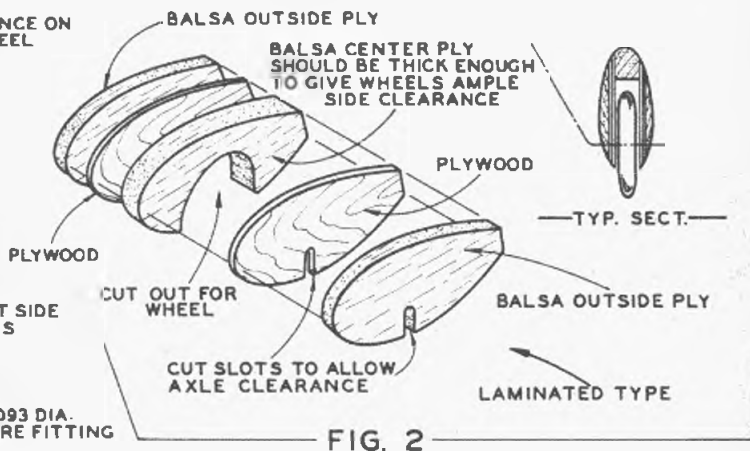
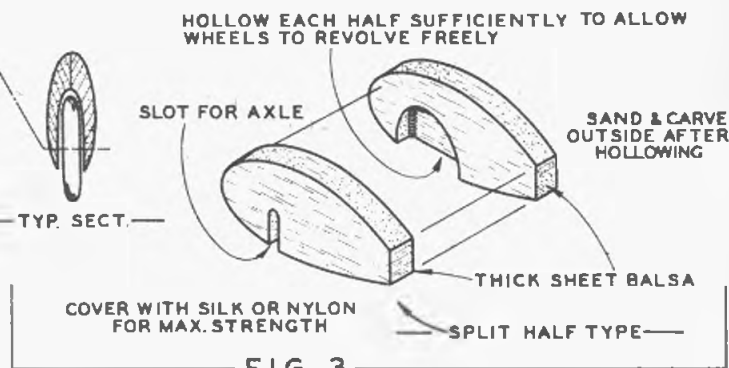

FIG. 2
FIG. 3
With constant newcomers into RC work and the increase in kit building, we'd like to take up a little space on what is usually considered a matter-of-fact subject. Here are a few suggestions on the proper techniques in obtaining good reliable soldered connections. The soldering iron must be capable of heating the work to soldering temperature. For general hook-up work we suggest the Ungar pencil iron with a 35 watt tip. While the 35 W Ungar iron is sufficient for component wiring, a 100 watt iron should be used for chassis work, etc. Be sure the tip is properly "dressed"; that is, all pits and corroded surfaces smoothed out with a file, as in Fig. 2. Too sharp a tip will not hold the heat and too shallow a tip will not allow access to cramped quarters. After the iron is hot, the tip should be cleaned with steel wool or emery cloth. Immediately "tin" the iron tip with rosin core solder. This is done by melting the solder in the area shown in Fig. 2 and by wiping it occasionally on a piece of steel wool. During soldering, the tip of the iron *must* be kept free of burnt rosin and scale and excess solder. This can also be accomplished by an occasional wipe on the steel wool. Use only a good grade of rosin core solder, preferably a 60/40 grade (60 per cent tin—40 per cent lead). Ersin Multicore or Alpha, as supplied by Ace Radio Control, Electronic
► In the accompanying sketches we have shown the two most popular types of wheel pants construction: the laminated type in Fig. 2 and the hollowed-out, split-half type as in Fig. 3. Choice of either type is largely up to the individual. The laminated type is perhaps stronger and might, therefore, be selected for use on team racers, where strength and dependable operation are of paramount interest.